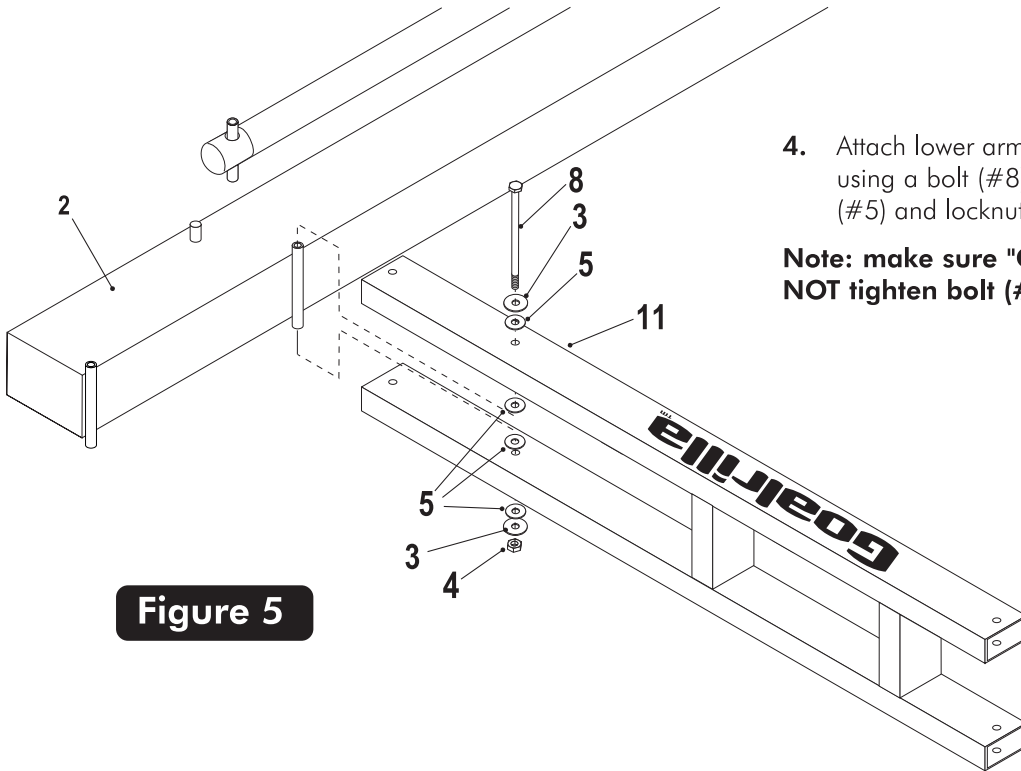

Figure 5
- Attach lower arm (#11) to Pole (#2), as shown in Figure 5, using a bolt (#8), two flatwashers (#3), four plastic washers (#5) and locknut (#4).